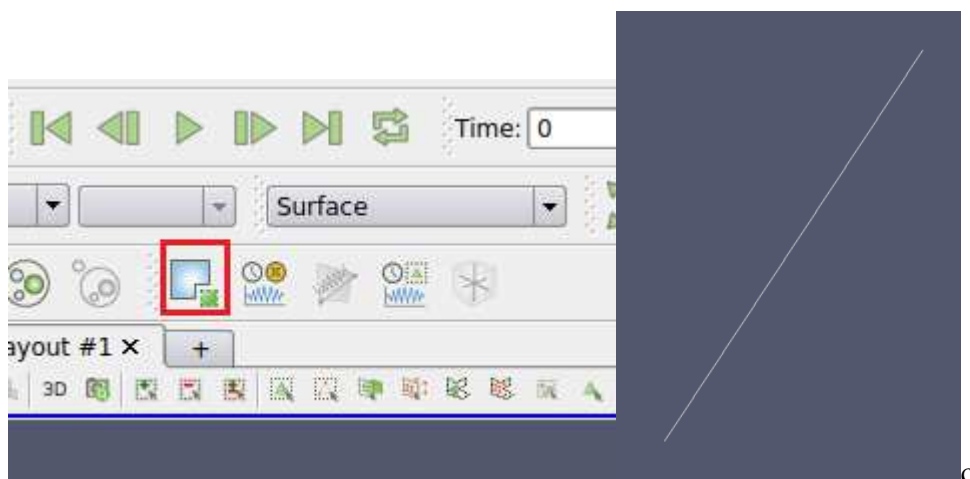

Figure 2.12: Extracting the edge using the "Extract Selection" tool.
- 8) Now click the "Extract Selection" under "Data Analysis" toolbar as shown in figure 2.12 and click "Apply" on the "Properties" tab.